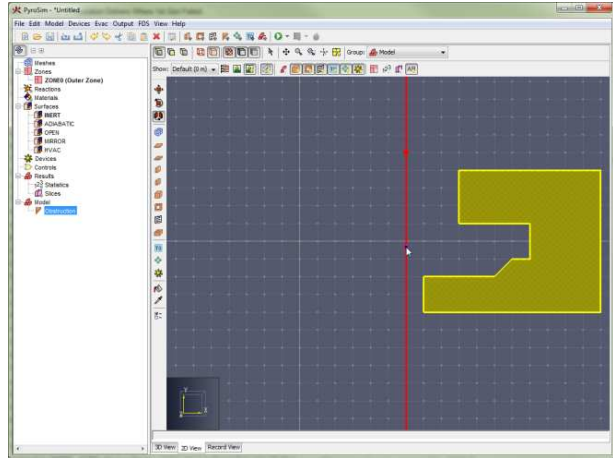

Figure 97. Define second point and mirror line
3. Use **Click-drag Mode** or **Multi-click Mode** to define two points that create a plane about which the selected objects are mirrored (Figure 97).